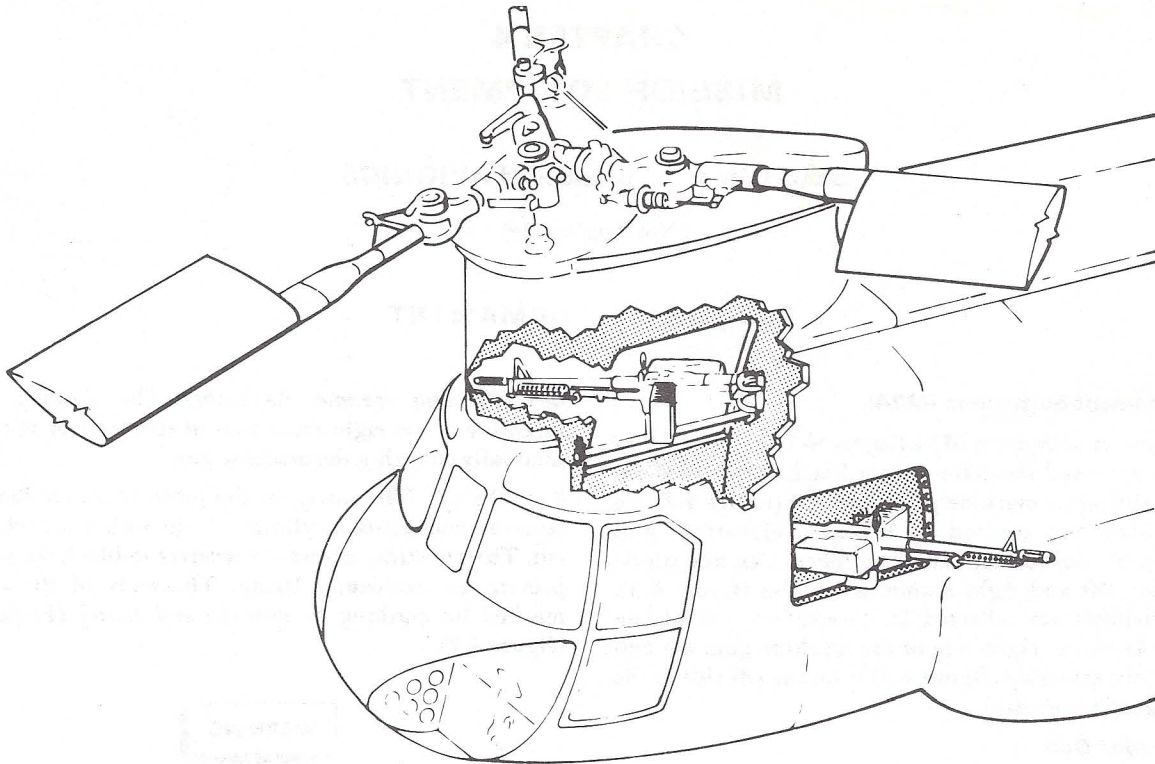
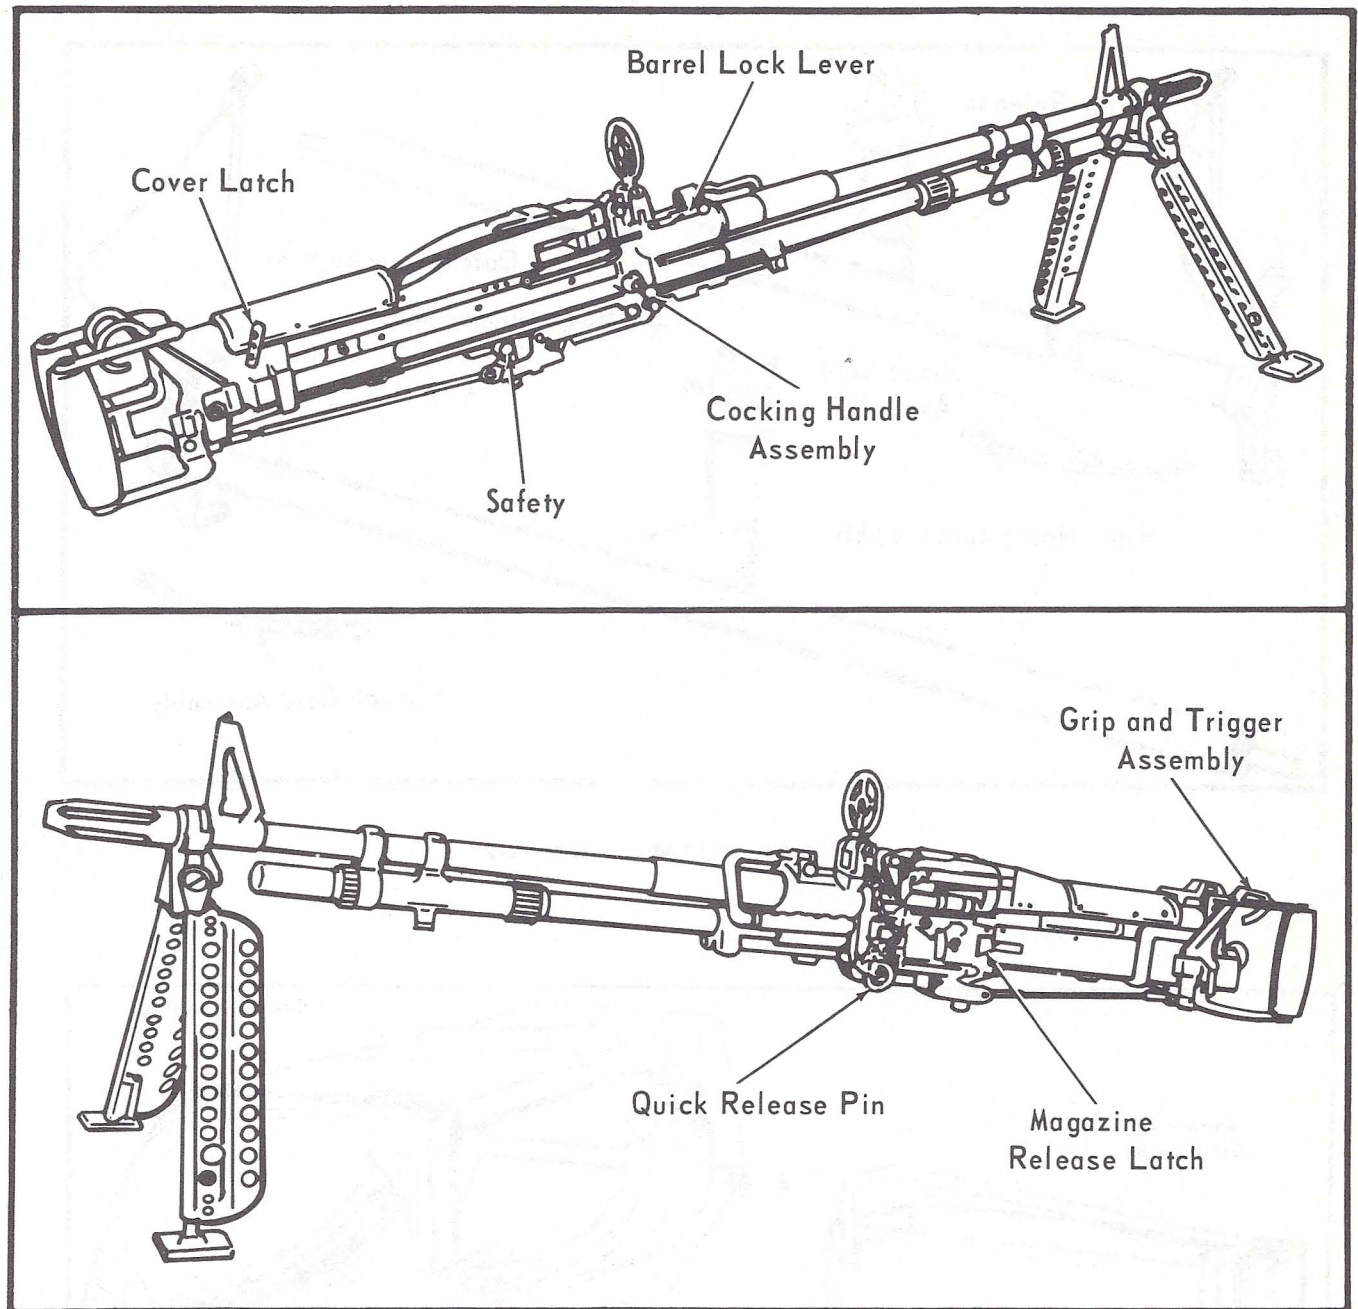
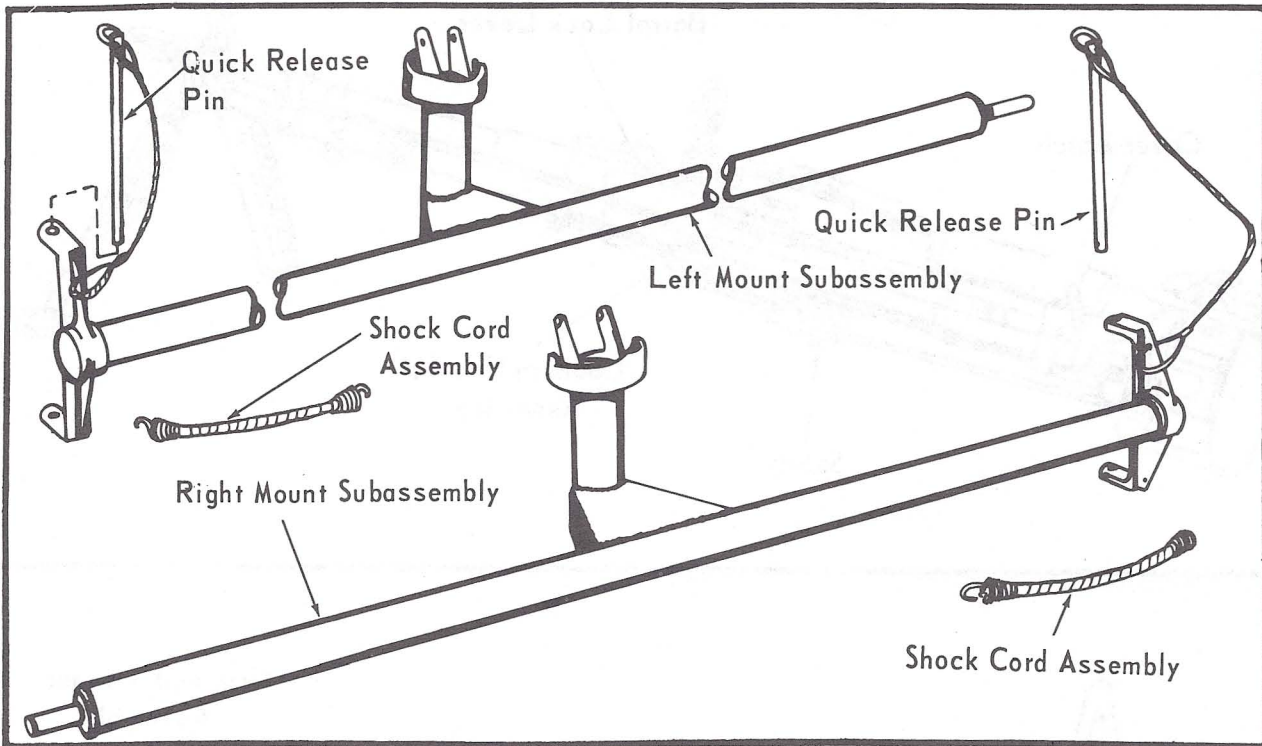
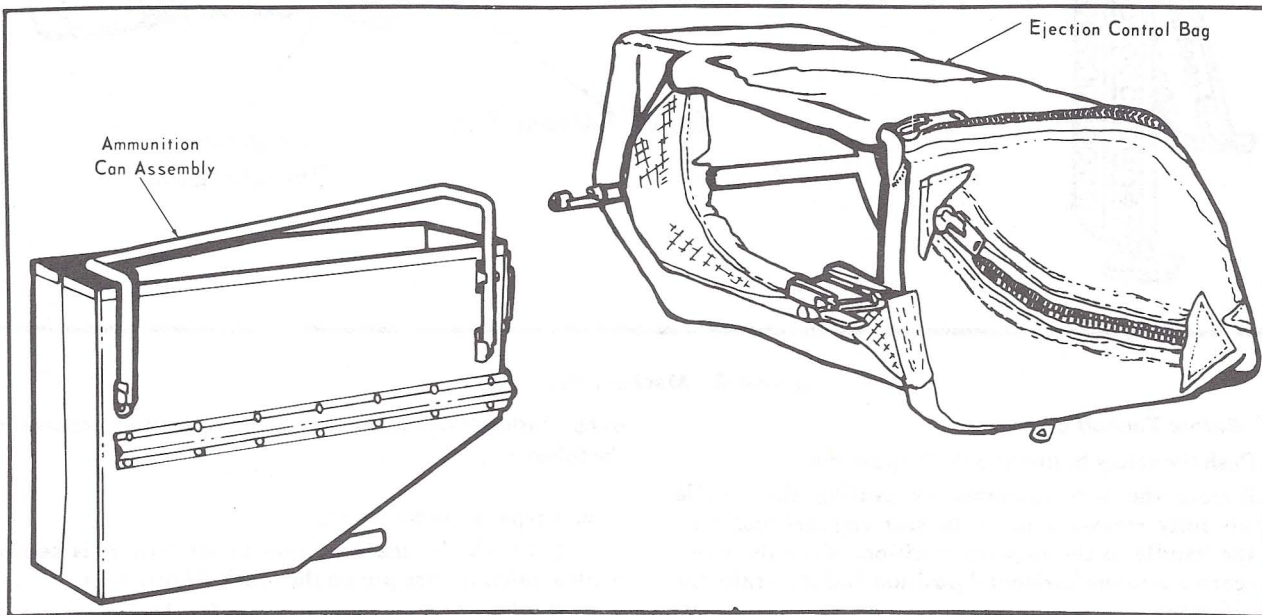

Figure 4-1. M24 Armament Subsystem
Figure 4-2. Machine Gun M60D
Figure 4-3. M24 Mount Assembly
Figure 4-4. Ammunition Can Assembly and Ejection Control Bag
The armament subsystem M24 (figure 4-1) is installed in the cabin door and the cabin escape hatch. The two flexible 7.62-millimeter machine guns (M60D) (figure 4-2) are free pointing but limited in traverse, elevation, and depression by cam surfaces, stops on the pintles, and pintle posts of the left and right mount assemblies (figure 4-3). Spent cartridges are collected by an ejection control bag (figure 4-4) on the right side of the machine gun. An ammunition can assembly (figure 4-4) is on the left side of the machine gun (figure 4-4).
The 7.62-millimeter machine gun (M60D) (figure 4-2) is a link belt-fed, gas-operated, air-cooled, automatic weapon. It is mounted on the left and right side pintles.
4-5. Cover Latch. The cover latch (figure 4-2) is at the right rear side of the feed cover assembly. When placed in vertical position, it secures the cover assembly in the closed position. When turned to horizontal position, it unlocks the cover assembly.
4-6. Barrel Lock Lever. The barrel lock lever (figure 4-2) at the right front side of the receiver is secured to the barrel locking shaft. It turns the shaft to lock or unlock the barrel assembly.
4-8. Safety. The safety, at the lower front section of the receiver, consists of a cylindrical pin with a sear clearance cut. The pin slides across the receiver to block the sear and prevent an accidental firing. The ends of the pin are marked for pushing to safe (S) and firing (F) positions (figure 4-2).
7. Safety—Push button to safe (S) position and try to fire the unloaded machine gun (figure 4-2).